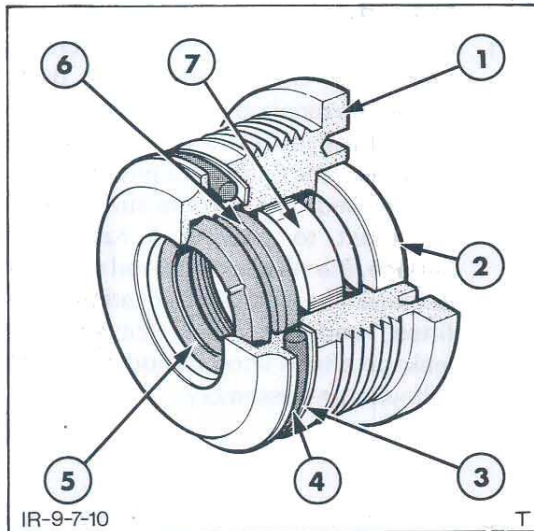
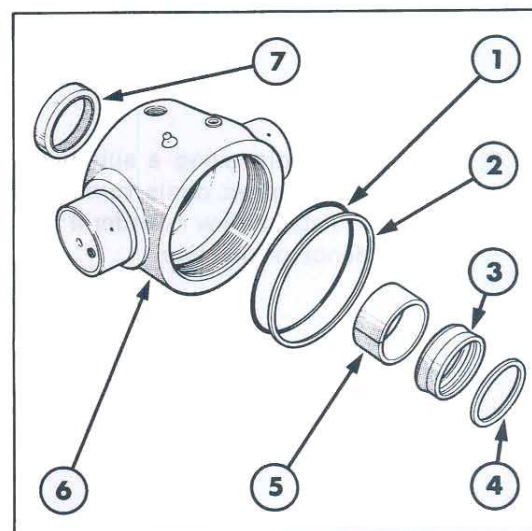

Figure 48
Figure 50
1. Install the 'O' ring seal and back-up ring on the outer diameter of the gland, refer to Figures 48 and 49. Ensure that the concave face of the back-up ring abuts the 'O' ring and that the 'O' ring is positioned towards the barrel. Note that on swing cylinders these seals are positioned in the large internal groove of the headstock, Figure 50.